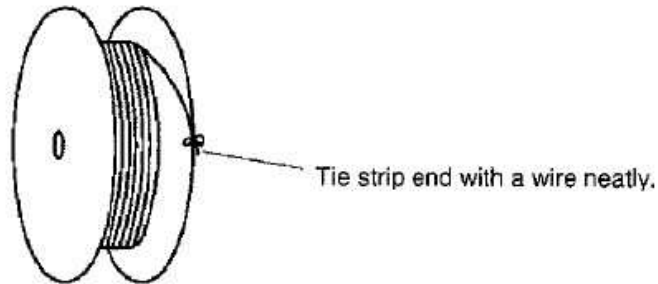

Fig. 7
- (3) Avoid storing the TML reel in a moist or dusty place. TML should keep dry and clean place(5~34 ° C, 45~85%RH) away from direct sunlight
- (4)When removing the TML reel from the machine, fasten the end of the TML strip onto the edge for the reel with use of proper string or wire. (Fig. 7)